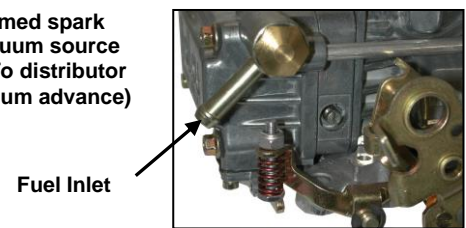

Figure 4
5. Connect the fuel feed line along with an appropriate inline filter (**Figure 4**).